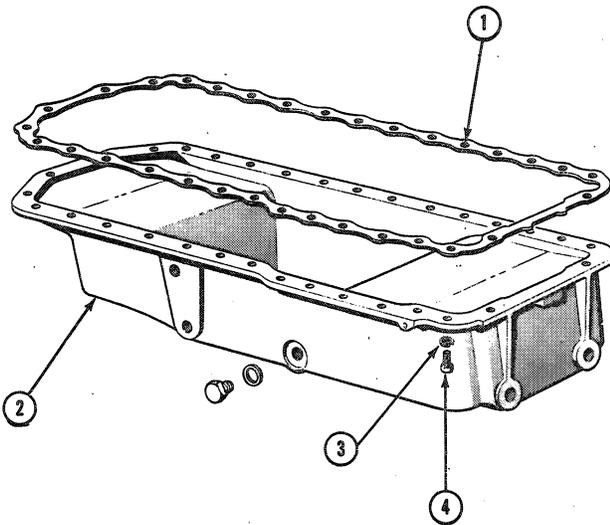

Figure 31
12. Support the oil pan. Remove the 31 attaching bolts and lock washers holding the pan to the engine. Refer to Figure 31.
1. Remove the oil pan, as outlined under "A. Oil Pan Removal", page 20. Refer to Figure 31.